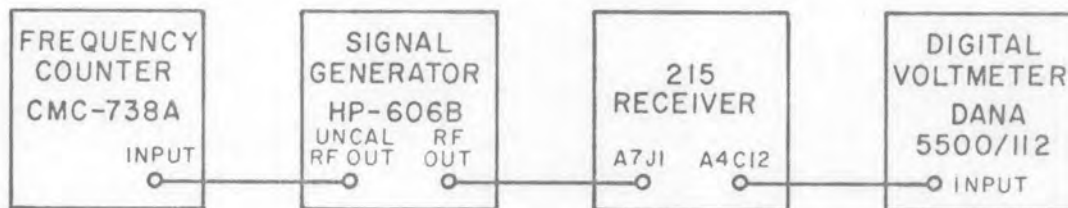

Figure 4-20. Equipment Connections, IF Preselector Gain Adjustment
- (1) Connect the equipment as shown in Figure 4-20.